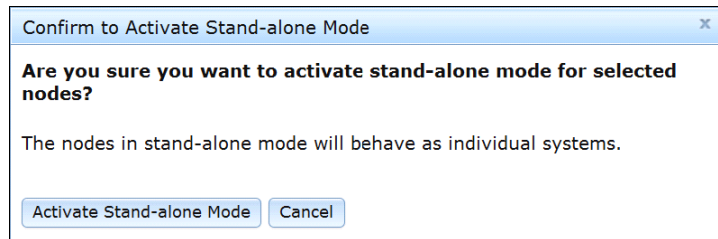

Figure 5-77 Partition confirmation message
- Click **Activate Stand-alone Mode** in the confirmation message, as shown in Figure 5-77.